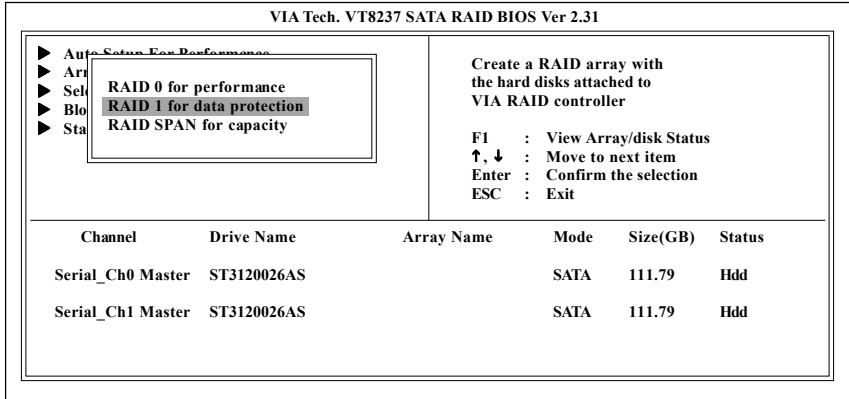

Figure 14
4. Then you will see a menu for you to select the RAID type (Figure 14) . Use arrow keys to select RAID 1 for data protection and press <Enter>.